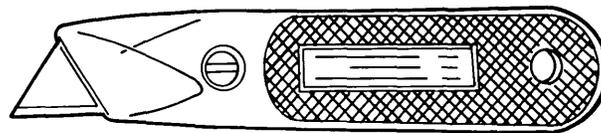

Figure 4-50. Utility Knife
(1) **Utility knife.** The utility knife can be used to cut cardboard, and paper. It has an aluminum handle, and is furnished with interchangeable blades which are stored in the handle. A typical utility knife is shown in figure 4-50.